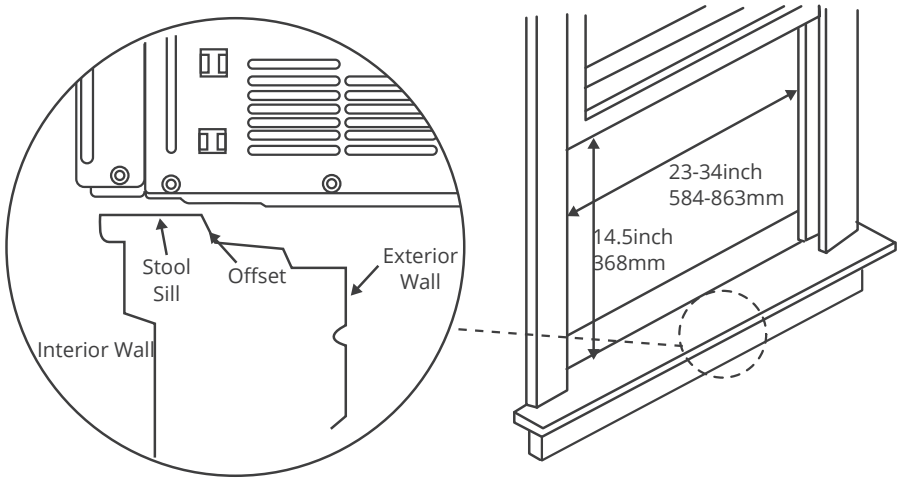

Fig.1
- The Lower Sash (the lower part of the window that moves up and down) must allow for 14.5" of vertical clearance when open. (See Fig.1).